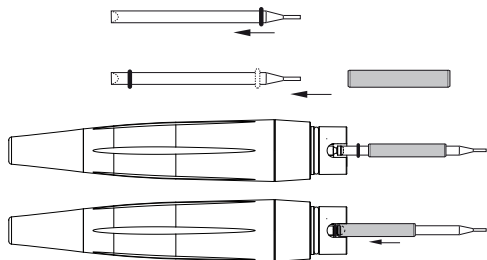

Fig. 6 Handpiece Maintenance
- In case of damage, excessive wear at least once a year: replace the watertight O-ring which is located in the rear part by using the fitting tool (for details see Fig. 6).